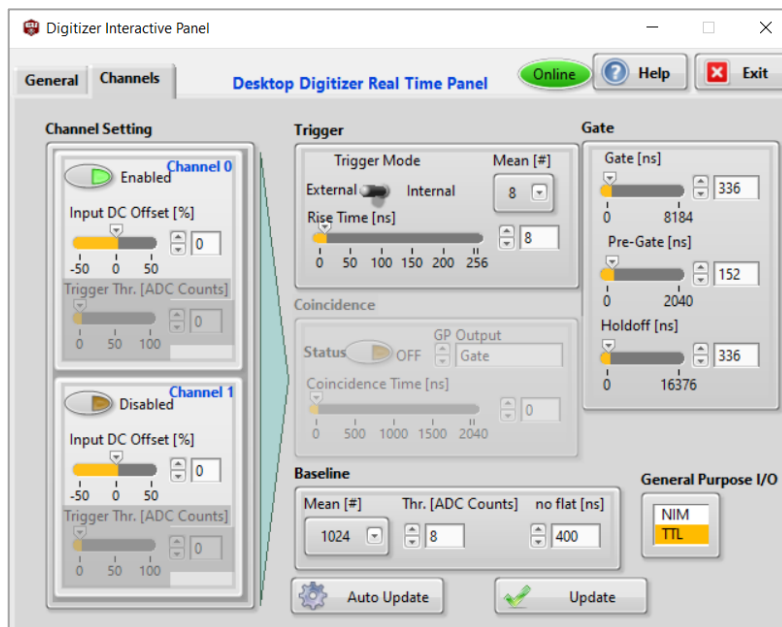

Fig. 7.8: The DIGITIZER control panel.
- HERA Software: in the Digitizer Interactive Panel (Fig. 7.8).
The *baseline* can be calculated according to the parameters specified in the corresponding sub-panel, namely (Fig. 7.8):
The *GATE* actually defines the integration time, and its edge may be triggered in different ways. Once the gate is open, its characteristics are associated to three parameters, specified in the gate sub-panel (Fig. 7.8):